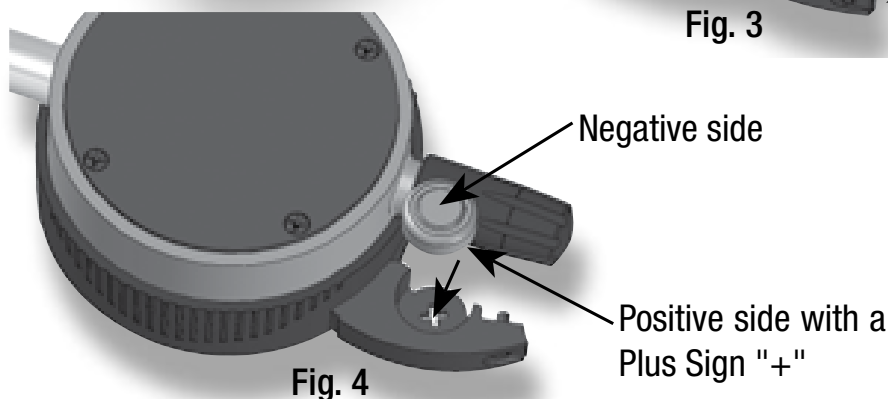

Fig. 4
- Install the new battery with the positive side facing the positive symbol on the battery tray pointed out in Fig.4